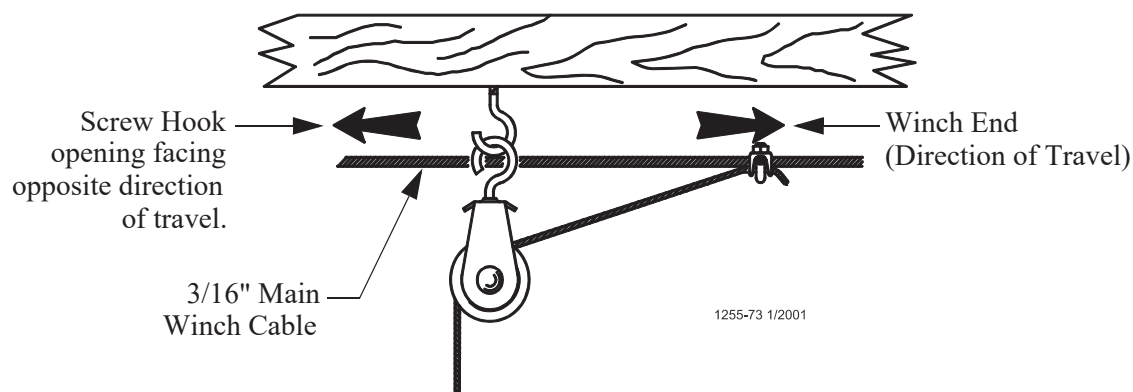

Figure 14. Screw Hook Installation
The openings of the screw hooks must be pointed away from the direction of travel when the Power Winch raises the feeder line. (See **Figure 14.**)
Refer to **Figure 14**, on page 14.
2. Thread the end of the 3/32" or 1/8" cable through the pulley toward the winch. Clamp this end to the 3/16" winch cable about 6" [150 mm] from the last pulley, using a 3/16" cable clamp. See applicable figure; **Figure 14 or 20**.